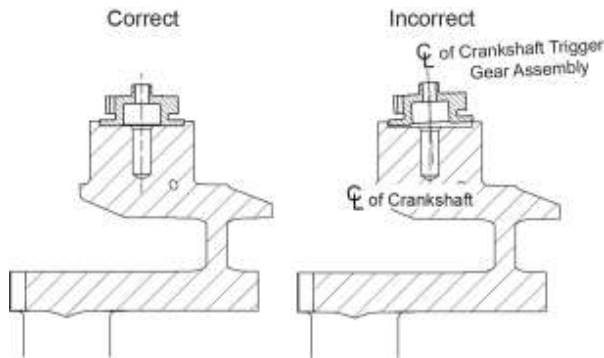

Figure 105
- I. Make sure the crankshaft trigger gear assembly seats firmly and is perpendicular (not at a slanted angle) to the crankshaft as shown in Figure 105: